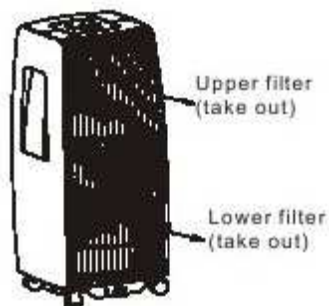

Fig.17
- Removal: The unit has two filters. Grasp the filter tab and pull towards you. Refer to arrows shown in Fig.17